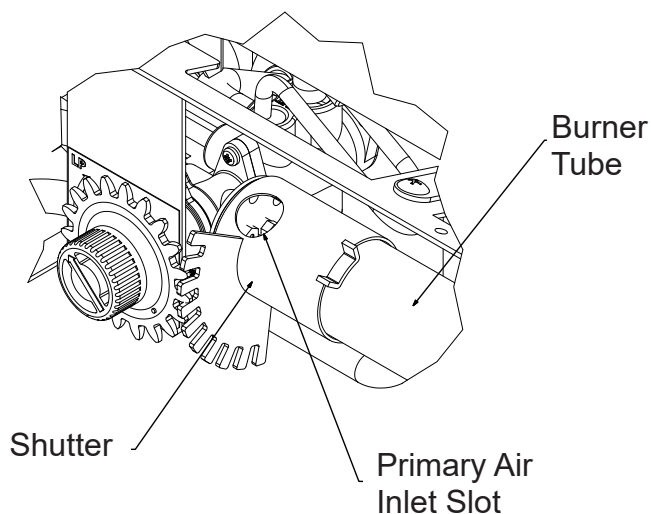

Fig. 24 - Primary Air Inlet Slot on Burner Tube
2. Inspect burner, pilot and primary air inlet holes on orifice holder for dust and dirt (See Fig. 24)